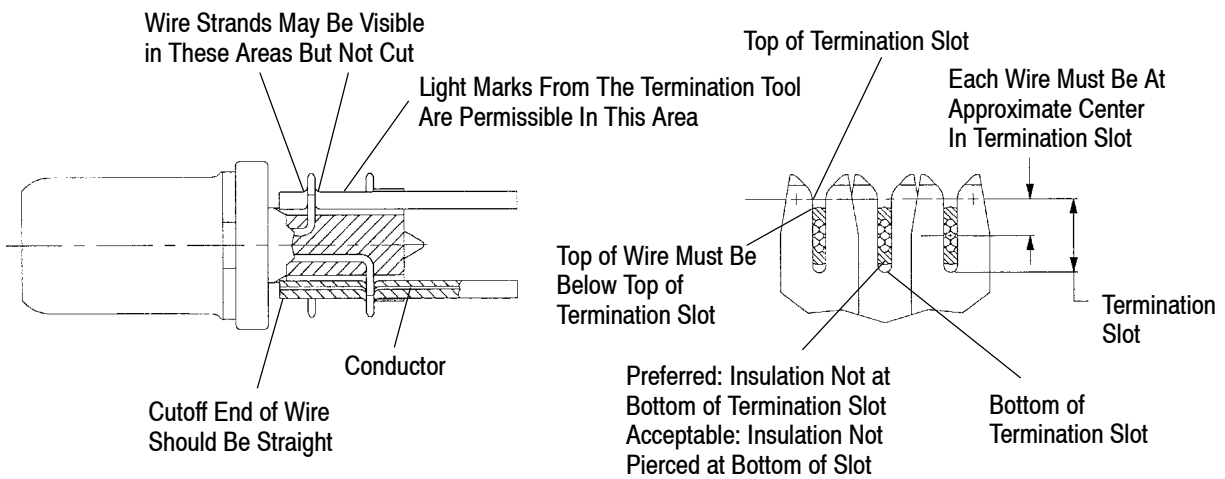

Figure 5
B. Internal Inspection (See Figure 5)